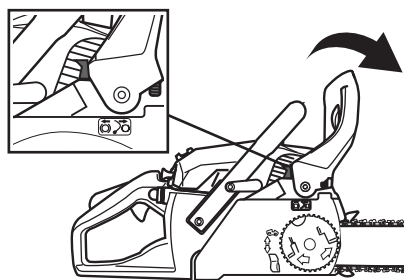

Fig. 22
The chain brake (2) in the engaged position, the saw chain is stopped as soon as the chain brake is activated (Fig. 22).